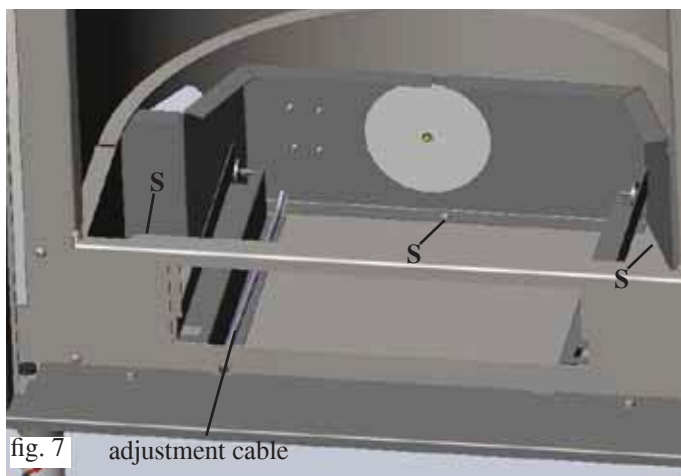

fig. 7
- Secure the plate with the three screws supplied (S) to the bottom of the hearth (fig. 7 - pg. 28).